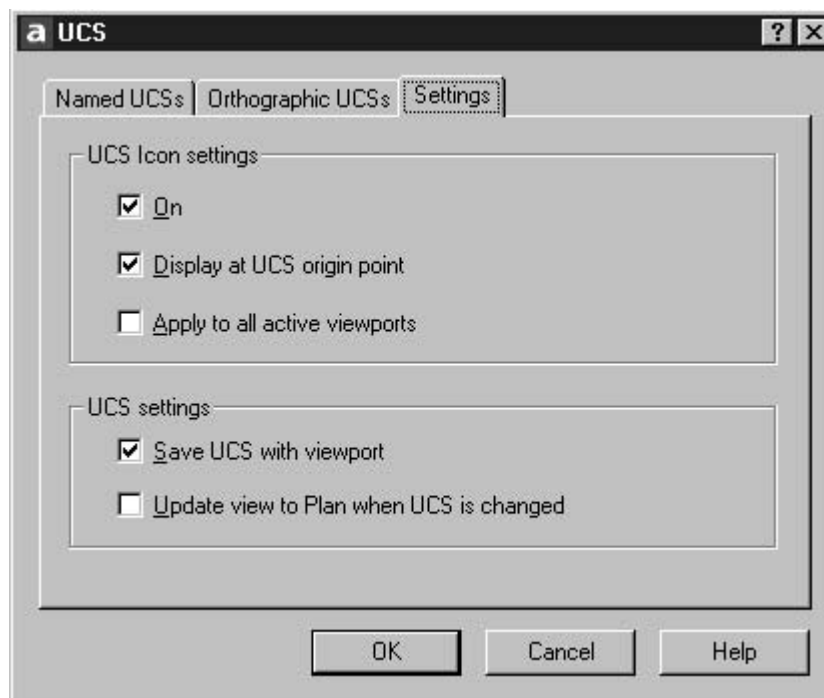

Figure 5.4 The UCS dialogue box – Settings tab.
- prompt* Settings tab – Fig. 5.4